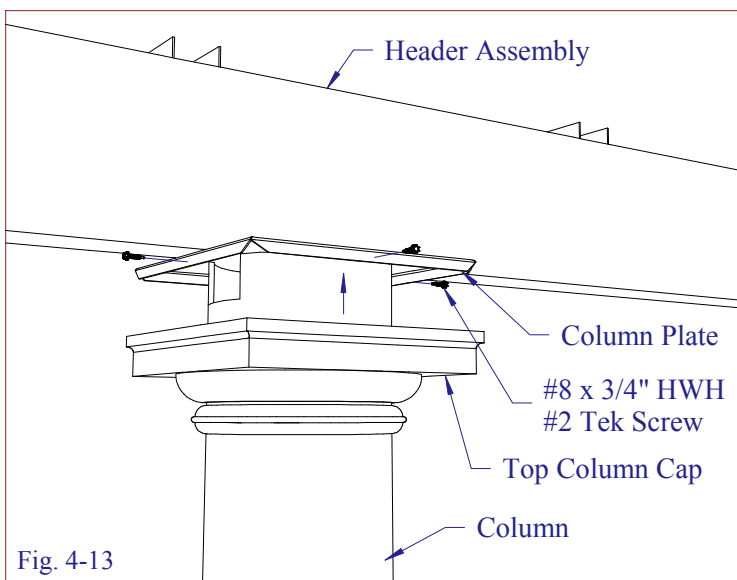

Fig. 4-13
-Once columns are installed, continue with installation from Step 2. After the header is attached (see Step 3), raise the top column cap and attach to the column plate using (4) #8 x 3/4" HWH #2 Tek screws (see Fig. 4-13).